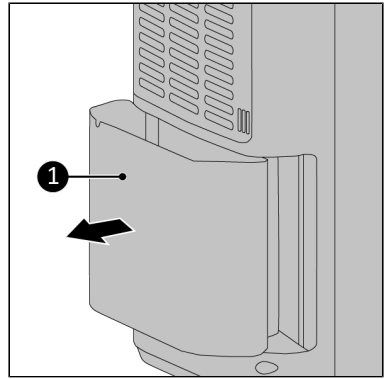

Figure 18.
1. Place both hands on the sides of the water tank (Figure 18, pos. 1).
2. Carefully pull the water tank (Figure 18, pos. 1) out of the device.